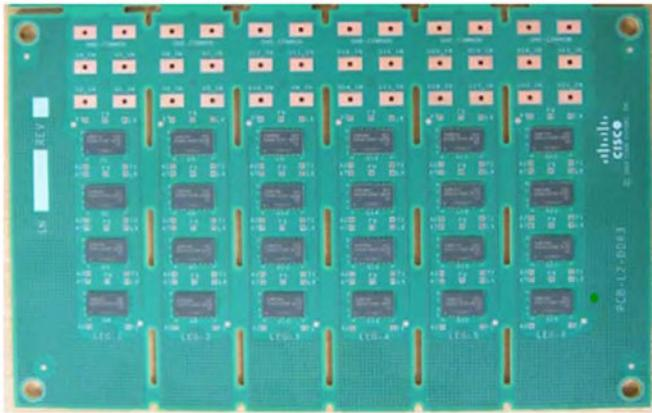

Figure 9: Mixed VIPPO and non-VIPPO test vehicle with multi-drill size.
The DDR4 VIPPO and non-VIPPO test vehicle (shown in Figure 9) is designed to investigate the influence of two different VIPPO drill hole sizes (DHS), 9.8 mils & 7.9 mils, on the solder joint integrity in a mixed VIPPO and non-VIPPO BGA footprint within the PCB. A set of controlled PCB factors such as PCB thickness (125 mils), material (Megtron 6) and number of stack-up layers (16) are used along with DDR4 daisy chain BGA components (13.3x7.5 mm sq., 0.8 mm pitch) for resistance measurement and failure analysis purposes. The DDR4 components are designed only for single-side PCB assembly. However, for this evaluation, the assembled PCB is subjected to a second SMT reflow excursion in order to simulate a secondary topside reflow process.